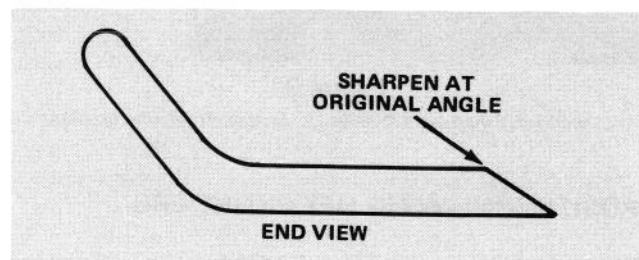

Figure 39
3. Examine cutting edges of all blades. Sharpen the cutting edges if they are dull or nicked. Sharpen only the top side of the cutting edge and maintain the original cutting angle to assure sharpness (Fig. 39). The blade will remain balanced if same amount of metal is removed from both cutting edges.